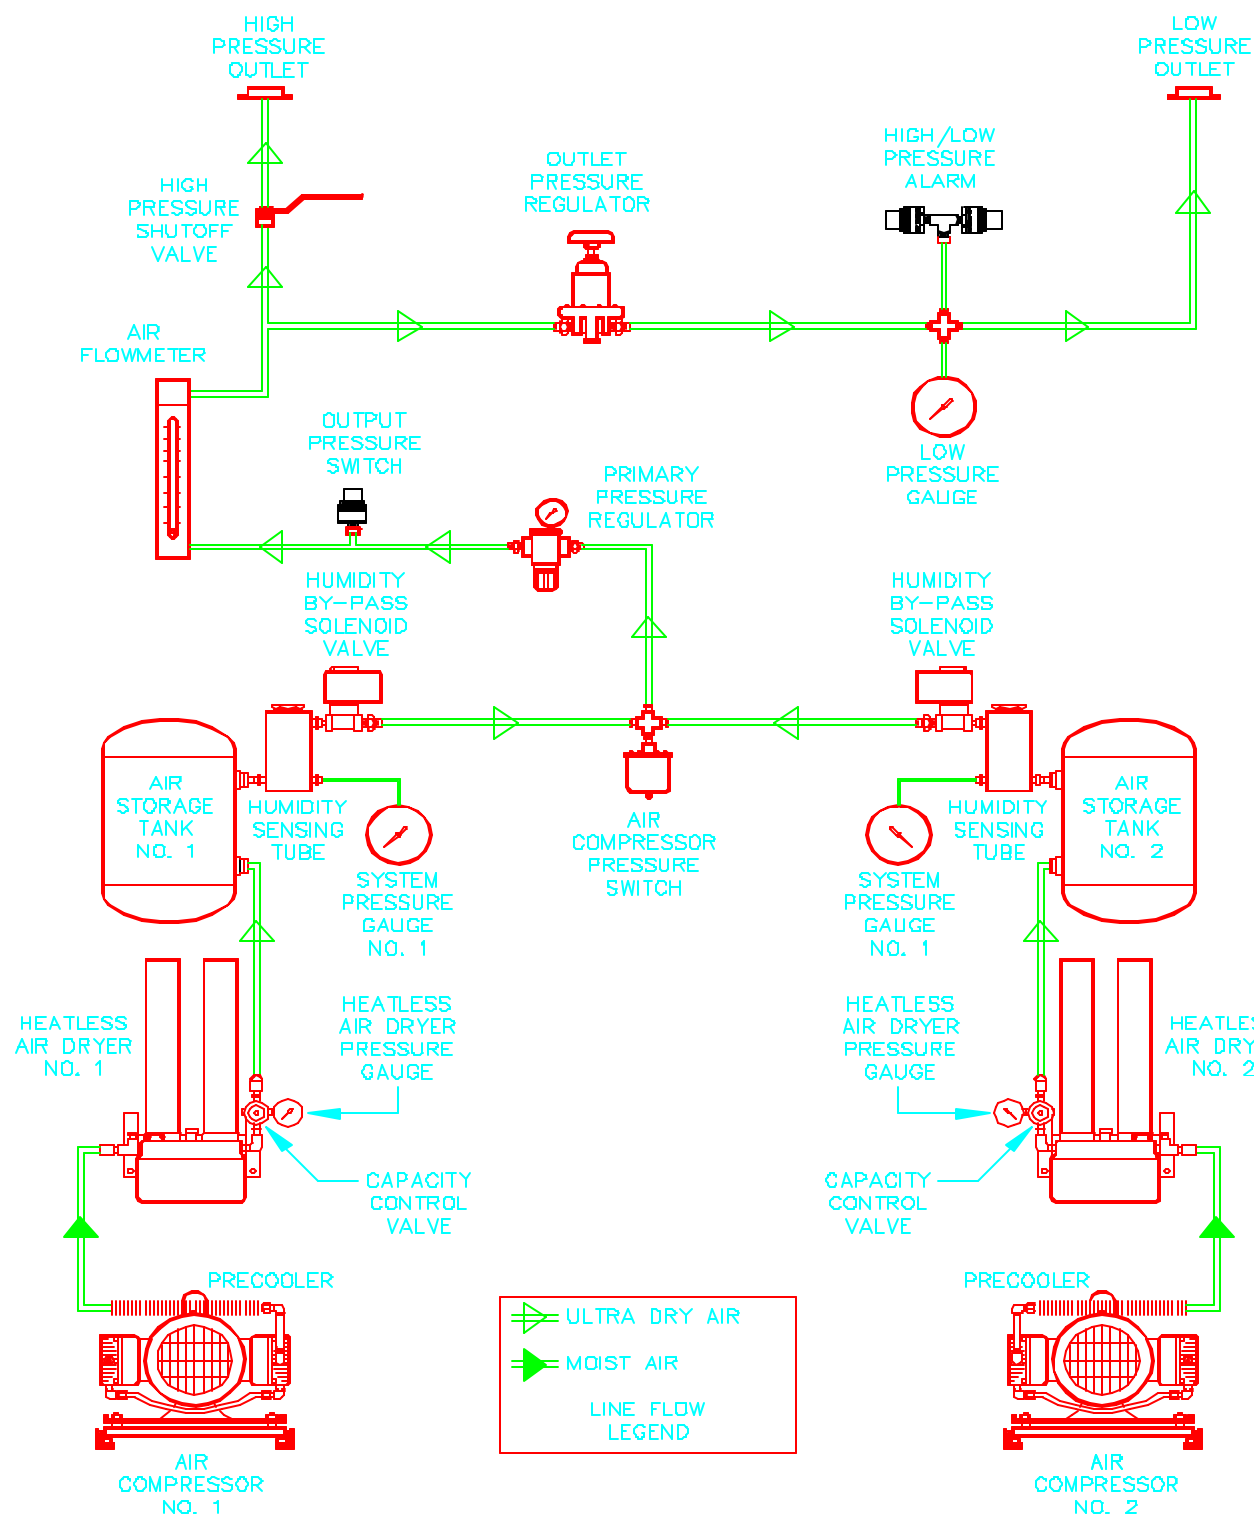

FIGURE 6—AIR FLOW SCHEMATIC
4.1.1 The air flow schematic is shown in figure 6. The air dryer contains two separate air drying systems, each consisting basically of an air compressor, pre-cooler, heatless air dryer, capacity control valve, air storage tank and humidity alarm system.